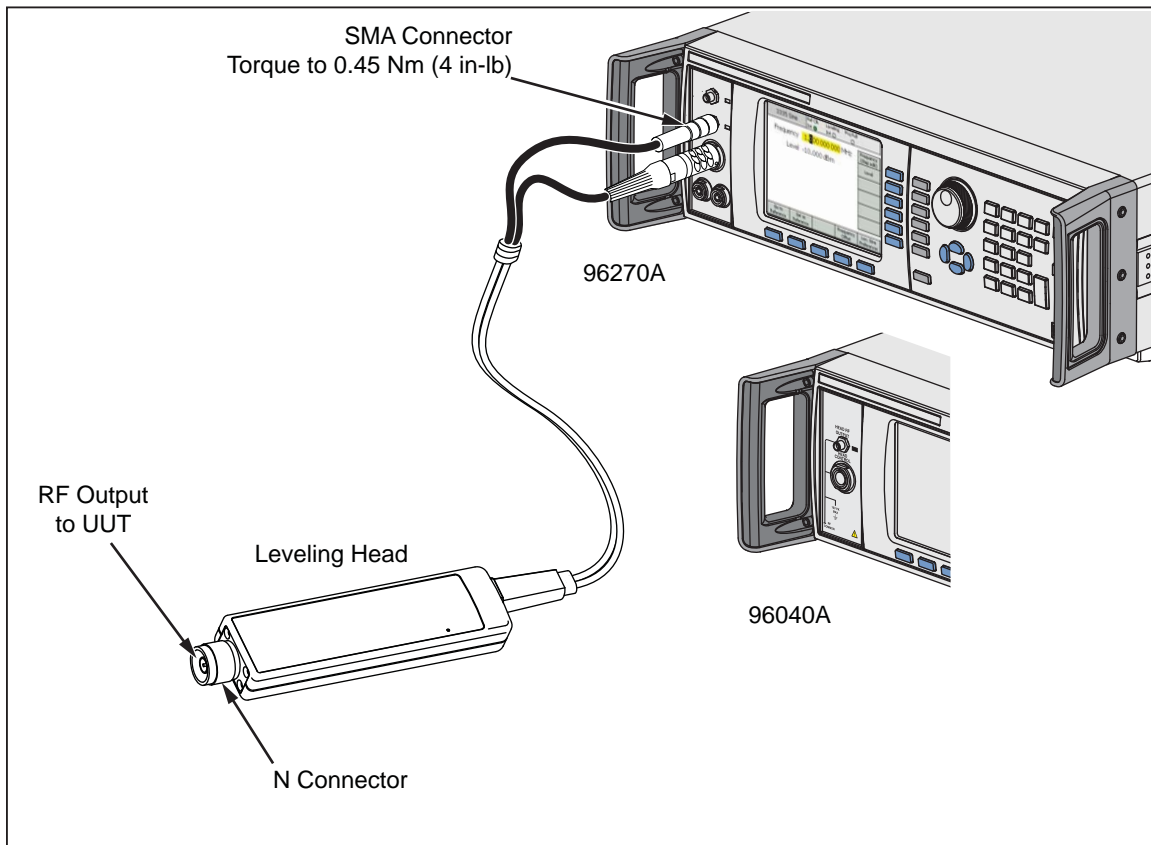

Figure 3-24. Connect the Leveling Head
2. See Figure 3-24, and connect the multiway connector to the Leveling Head Control connector on the Instrument. Push firmly on the multiway connector until it latches.
3. See Figure 3-24, and connect the SMA connector with the Head RF Output connector on the Instrument.